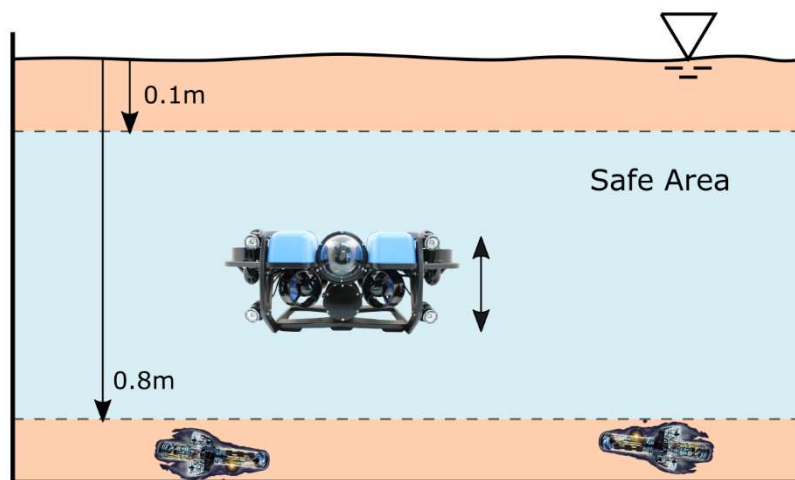

Fig.1: Safe operating area of the BlueROV2.
- 2) Design a depth-controller to **stabilize** the BlueROV2 at a desired water depth. Moreover, the controller should be able to follow a given depth profile. Your controller will receive setpoints from a topic named "depth_setpoint". In the template package, you will find an example node that publishes a constant desired depth. Additionally, as a safety feature, your controller must send null actuator commands when the measured robot depth is unsafe, i.e. depths greater than 0.8 m and smaller than 0.1 m as depicted in Fig. 1. It also has to send null actuator commands for depth setpoints outside the "safe" range. Note